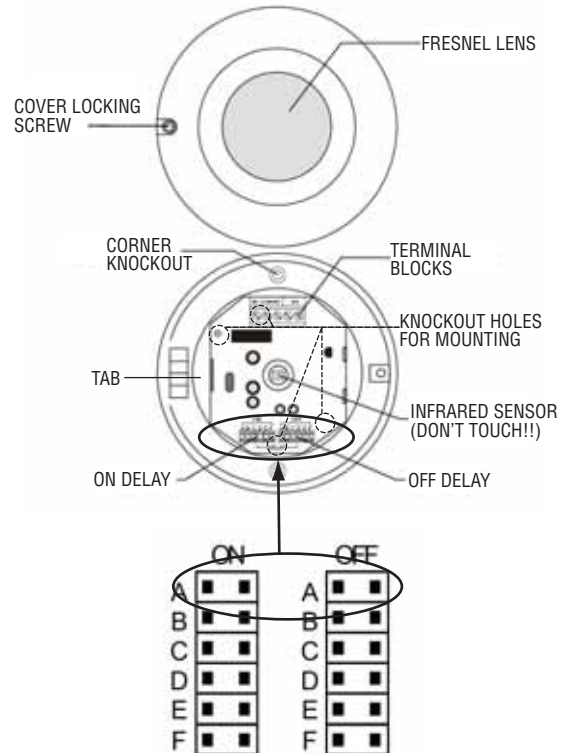

Figure 3
Before beginning test, make certain that the On and Off Delay jumpers (located on the circuit board) are connected in the "A" positions as shown in Figure 3. If they are not, follow the procedure under the section titled On/Off Delay Settings to rearrange the jumpers to location "A." Replace the sensor housing and tighten screw.
2. Refer back to Figure 3 to locate the On/Off Delay pins and jumpers on the circuit board.